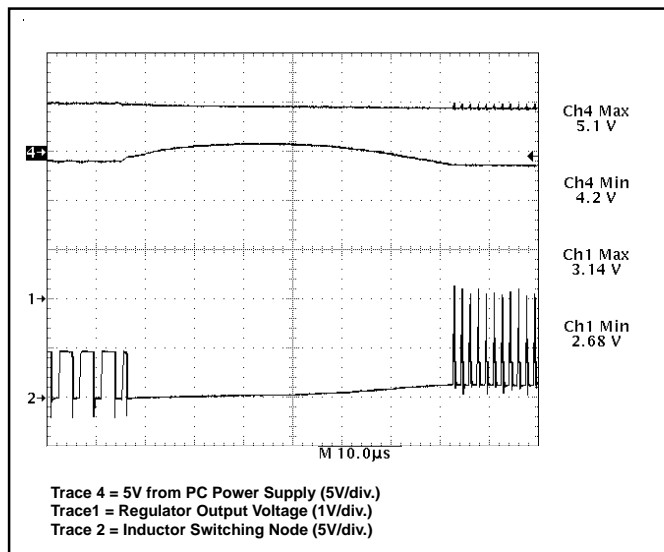

Figure 12: CS5160 OVP response to an input-to-output short circuit by immediately providing 0% duty cycle, crow-barring the input voltage to ground.
Overvoltage protection (OVP) is provided as result of the normal operation of the V^2 ™ control topology and requires no additional external components. The control loop responds to an overvoltage condition within 100ns, causing the top MOSFET to shut off, disconnecting the regulator from its input voltage. The bottom MOSFET is then activated, resulting in a “crowbar” action to clamp the output voltage and prevent damage to the load (see Figures 12 and 13). The regulator will remain in this state until the overvoltage condition ceases or the input voltage is pulled low. The bottom FET and board trace must be properly designed to implement the OVP function.
The ramp waveform is generated through a small RC filter that provides the proper voltage ramp at the beginning of each on-time cycle. The resistors R1 and R2 in the circuit of Figure 12 form a voltage divider from the GATE(L) output, superimposing a small artificial ramp on the output of the error amplifier. It is important that the series combination R1/R2 is high enough in resistance not to load down and negatively affect the slew rate on the GATE(L) pin.